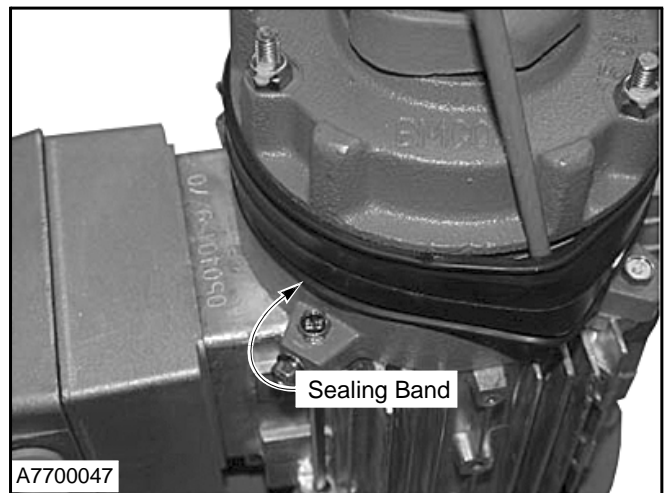

Figure 34
3. Remove sealing band. (See Figure 34.)